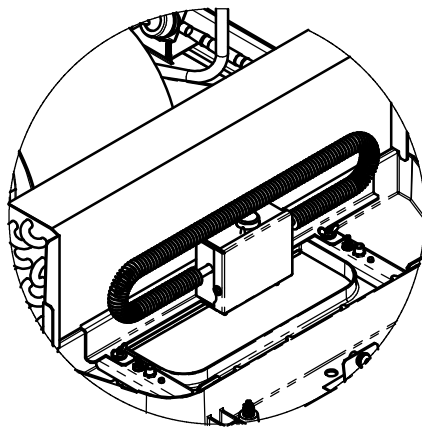

FIGURE 1
1. The field fabricated supply ducting must attach to both sides of the ceiling plenum. A minimum of two ducts are required, with one duct attached to each side of the plenum. See Figure 1.
For 47000 series units, see Figure 1.